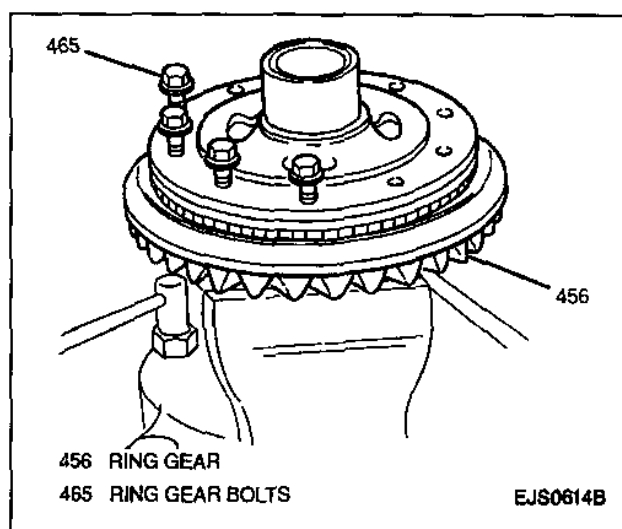

Figure 61—Installing Ring Gear Bolts
- 6. Left differential case half and ring gear to right differential case half; secure with ten bolts (Figure 61).